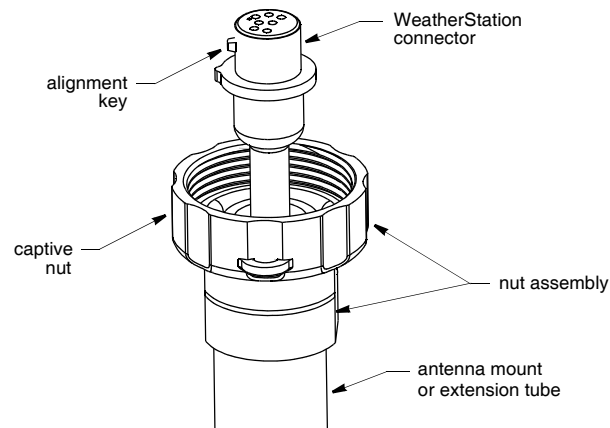

Figure 5. Attaching the cable to the WeatherStation Instrument
1. With the nut assembly on the cable near the WeatherStation connector, thread the cable through the extension tube (if used), antenna mount, and the cable exit. *Be sure to leave several inches of cable extending beyond the nut assembly* (see Figure 5).